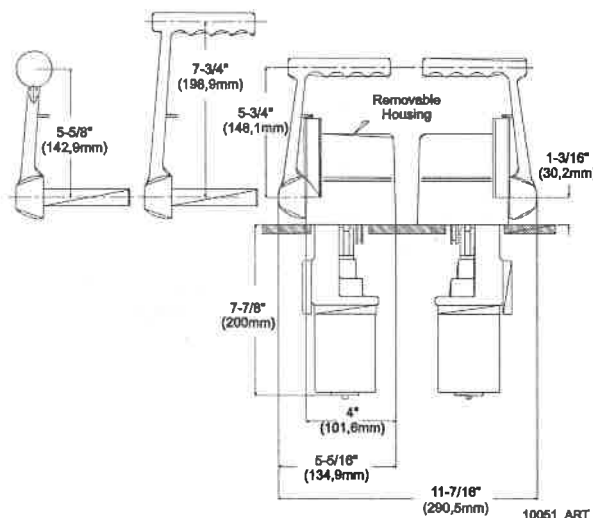
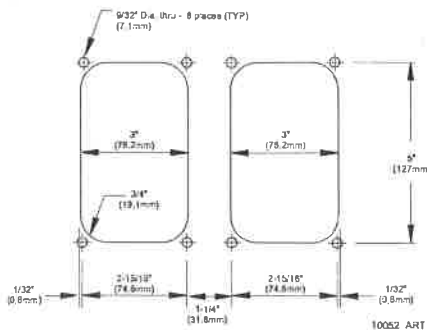
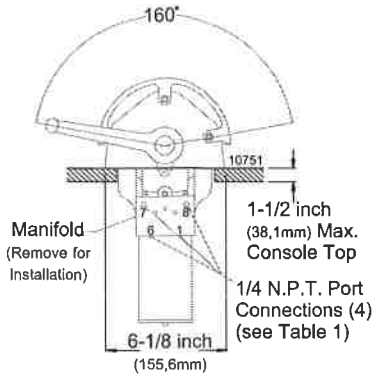
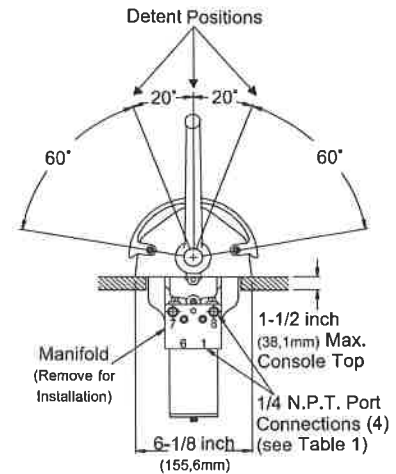

Figure B4-20-1: CH Control Head Dimensions
Figure B4-20-2: Cutout Template
Figure B4-20-3: Clearance Dimensions
Figure B4-20-4: Detent Positions
These Control Heads are designed for panel mounting. The Control Head may be installed and removed from the top, only after the manifold is removed. See Figure B4-20-1; Figure B4-20-2; Figure B4-20-3; and Figure B4-20-4: for dimensions.
- Place the Control Head lever (Item 4) in the maximum increasing pressure position (full travel) and turn the set screw (Item 41) in or out until the desired maximum pressure is seen on a test gauge from the appropriate pressure signal port (see Figure B4-20-3; or Figure B4-20-4:). Nominal operating pressure ranges for available cams are shown in Table B4-20-2: Minimum and Maximum Pressure Settings.